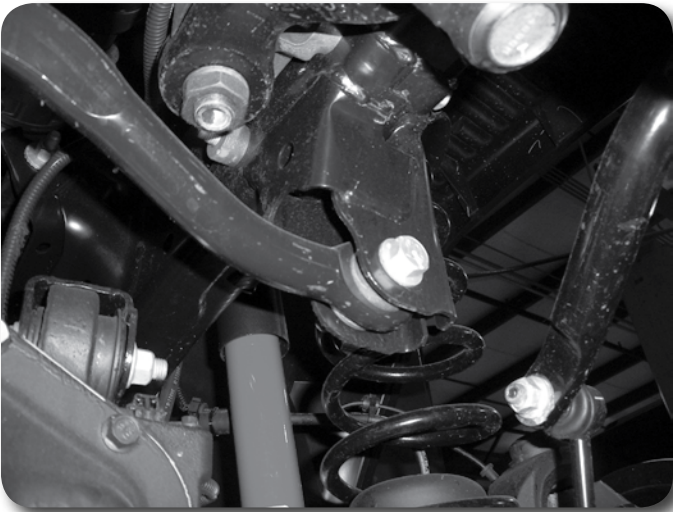

Figure 2
4. Disconnect the front track bar from the driver's side frame bracket. Remove the track bar from the vehicle and save along with the hardware. **Figure 2**